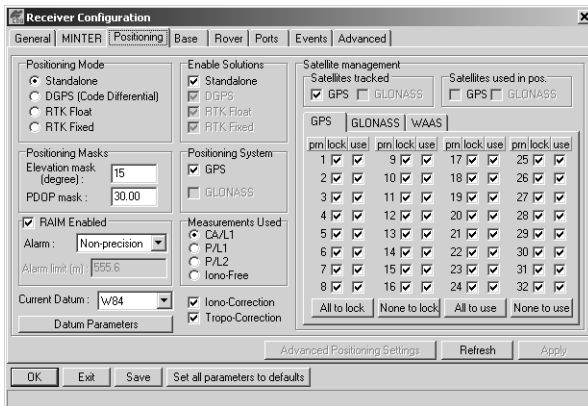

Figure 3-7. Configure Receiver Positioning – Elevation Mask
8. Click the *Positioning* tab and set the Elevation mask parameter to 15 (Figure 3-7), then click **Apply**.
4. Click the *Positioning* tab and set the *Position Masks, Elevation mask (degrees)* parameter to 15 (Figure 3-7 on page 3-11).